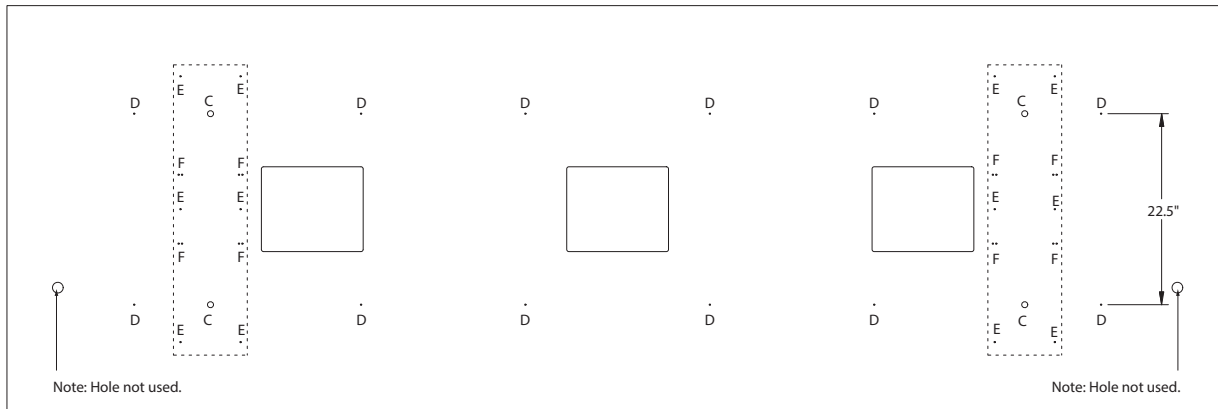

Fig. 1
**Check top alignment.** Counter bored holes on underside of top fit on to the Pan Head screws on each end base. See Fig. 1.